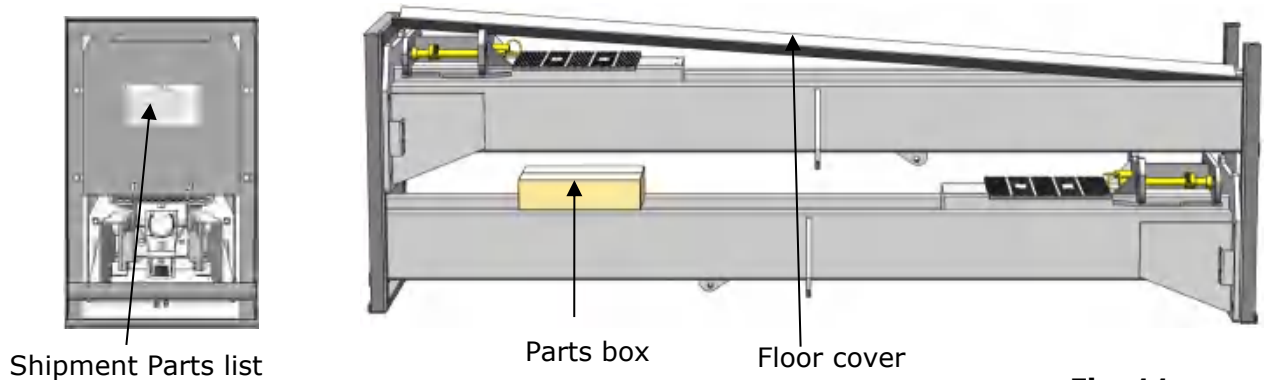

Fig. 11
2. Move the lift aside with fork lift or hoist, and open the outer packing carefully, check all parts according to the shipment parts list. (See Fig. 11).